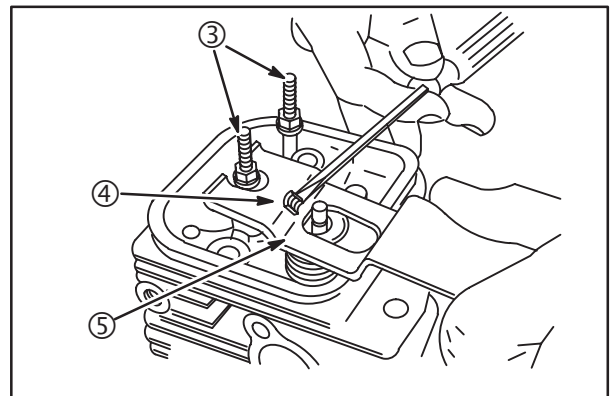

Fig. 19
4. Temporarily install rocker studs (3) in cylinder head.
5. Compress valve spring and retainer with Valve Spring Compressor **#19347** (5). Install the valve retainer locks (4), **Fig. 19**.